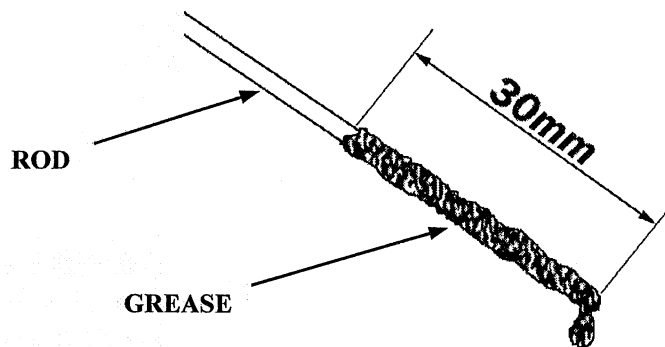

FIG. 4
- Check the grease level in each of the two cases containing the gears. To carry out this operation follow the instructions (see fig. 4):